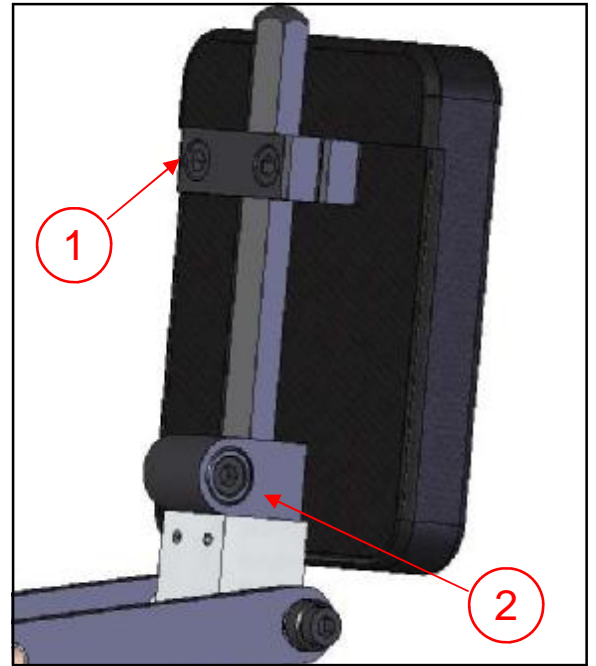

Figure 24
Refer to Figure 24.
1. To mount the shoulder pads, first remove the Headrest pad. Do this by loosening the two Allen screws securing it to the vertical hex bar coming out of the top of the column. (1)
2. Then, slip the shoulder pads onto the top of the bar as shown in Figure 24 A.